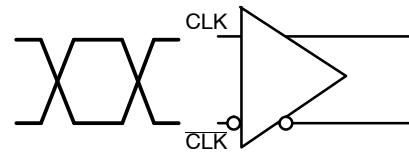

**Figure 4. HCSL Output Parameter Characteristics**
**HCSL OUTPUTS** (Figure 4)
$\Delta t_r$ , $\Delta t_f$	Variation in Magnitude of Risetime and Falltime (Single-Ended) (See Figure 4)